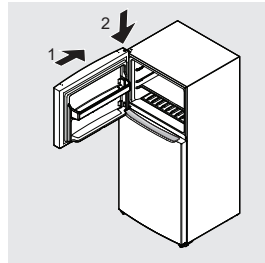

Figure 10
11. Lower the freezer door in the opened position over the center hinge pin and close the door (see Figure 10).